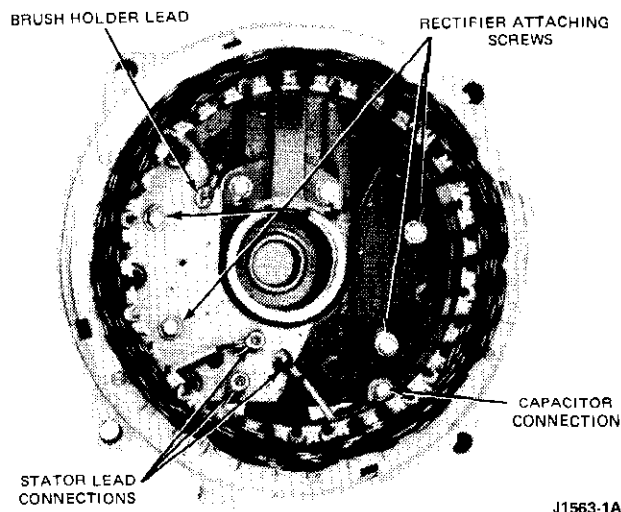

FIG. 6 Stator Lead Connections
11. For single circuit boards with built-in diodes, insert the screws straight through the wire lug, insulating washer and rectifier into the square hole in the rectifier into the insulator (Fig. 6). **The dished washers are to be used only on the circuit board with exposed diodes (Fig. 5).** If they are used on the integral rectifier, a short circuit will occur. A flat insulating washer is to be used between the stator terminal and the board when an integral rectifier is used (Fig. 6).
13. On the single circuit board, position the square stator terminal insulator in the square hole in the rectifier assembly (Fig. 6). Position the BAT terminal insulator (Fig. 11).
6. Unsolder and disengage the three stator leads from the rectifier (Fig. 6). Work quickly to prevent overheating the rectifier.
10. Remove four screws attaching the rectifier to the rear housing (Fig. 6).
13. Press the brush holder lead on the rectifier pin and solder securely (Fig. 6). Work quickly to prevent overheating the rectifier.
14. Position the stator in the rear housing and align the scribe marks. Press the three stator leads on the rectifier pins and solder securely (Fig. 6). Work quickly to prevent overheating the rectifier.
3. Unsolder and disengage the three stator leads from the rectifier (Fig. 6). Work quickly to prevent overheating the rectifier. Then, lift the stator from the rear housing.
6. Remove four screws attaching the rectifier to the rear housing (Fig. 6).
7. Press the brush holder lead on the rectifier pin and solder securely (Fig. 6). Work quickly to prevent overheating the rectifier.
8. Position the stator in the rear housing and align the scribe marks. Press the three stator leads on the rectifier pins and solder securely (Fig. 6). Work quickly to prevent overheating the rectifier.